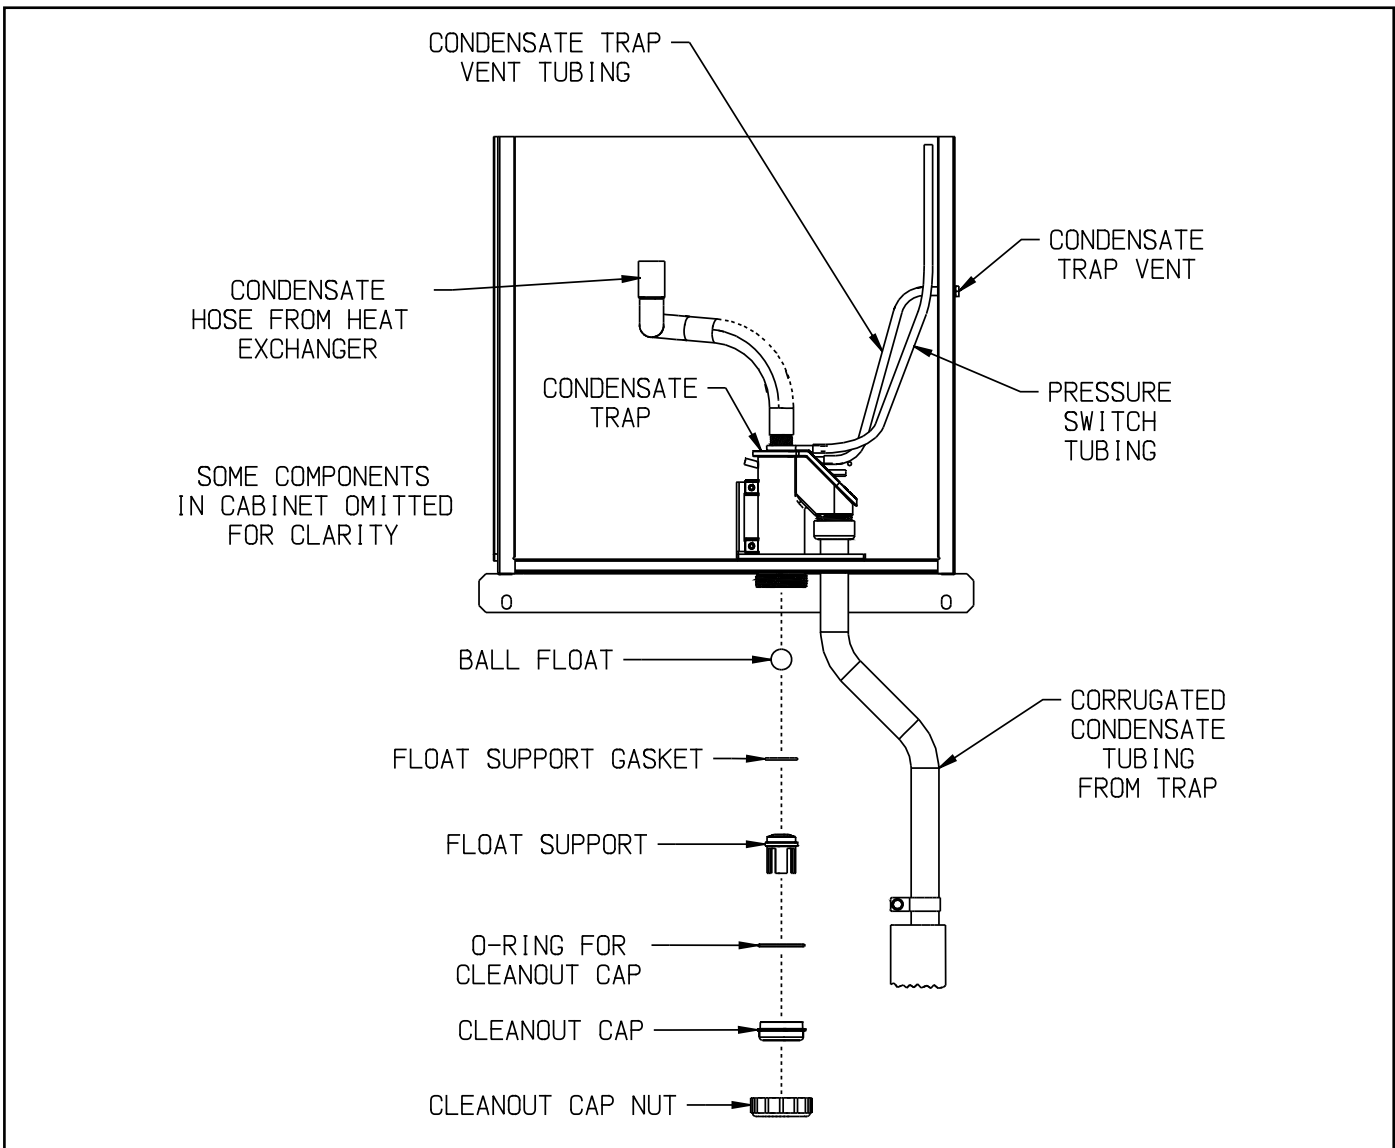

FIGURE 13.3: CONDENSATE TRAP EXPLODED PARTS VIEW
- q. **Inspect and clean the condensate trap.** Place a bucket under the condensate cleanout cap on the bottom of the boiler (Figure 2.1) to catch water in the trap as well as the ball and ball support. Unscrew the cap, being careful not to lose the ball or ball support. Flush any debris found in the trap with water – do not use other cleaning agents. Reassemble the trap as shown in Figure 13.3.